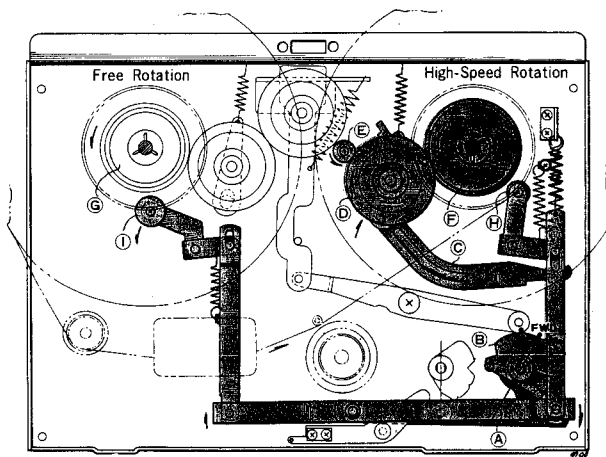

Fig. 3
Turn the *FAST FWD-REWIND knob (A)* in "FAST FWD" position, and the *cam (B)* under the knob pushes up the *Lever (C)*. The *Idler (D)* moves into the space between the *Plastic Roller (F)* above the *Take-up Reel Spindle* and the upper part of the rotating motor drive bushing to transmit the motor rotation to the take-up reel spindle. At the same time, *Brake Rollers (H) and (I)* come off the reel spindle to free the *Supply Reel Spindle (G)*, thereby allowing fast winding of the tape onto the take-up reel. (See figure 3)